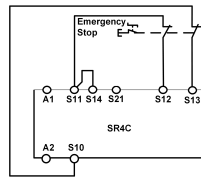
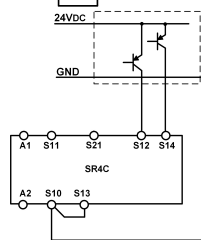
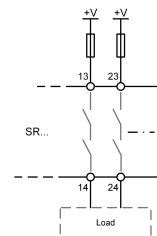

Fig. 4:
Fig. 8:
Fig. 14:
Depending on the application or the result of the risk assessment according to EN ISO 13849-1, the device must be wired as shown in Fig. 4 to Fig. 14. Non-time delayed contacts can be used up to category 4, PL e, time-delayed safety contacts up to category 3, PL e.
- For the applications according Fig. 8, make sure that the reference potential of the signal generator and the SR4C is the same
Wire the emergency stop circuit according to the required Performance Level determined (see Fig. 4 to Fig. 8).